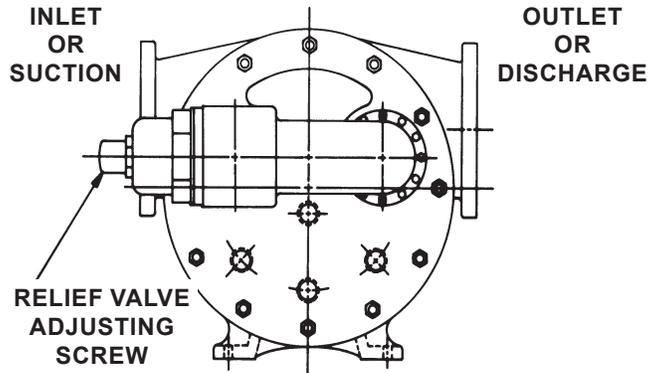

FIGURE 4
4. Relief valve adjusting screw cap must **always** point towards suction side of pump. If pump rotation is reversed, remove pressure relief valve and turn end for end. **Refer to Figure 4.**